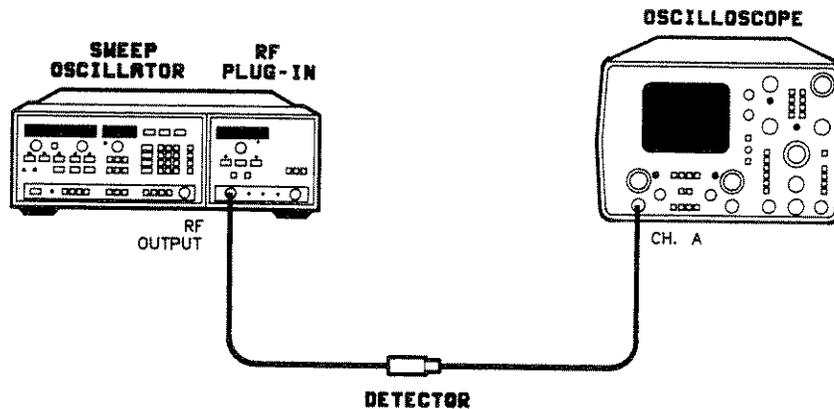

Figure 5-42. Squarewave Symmetry Adjustment Test Setup
1. Connect the equipment as shown in figure 5-42 with A4 on an extender board. With A4 on an extender board, there may be a slight frequency peak on the detected signal. This will disappear when the board is mounted in the plug-in.